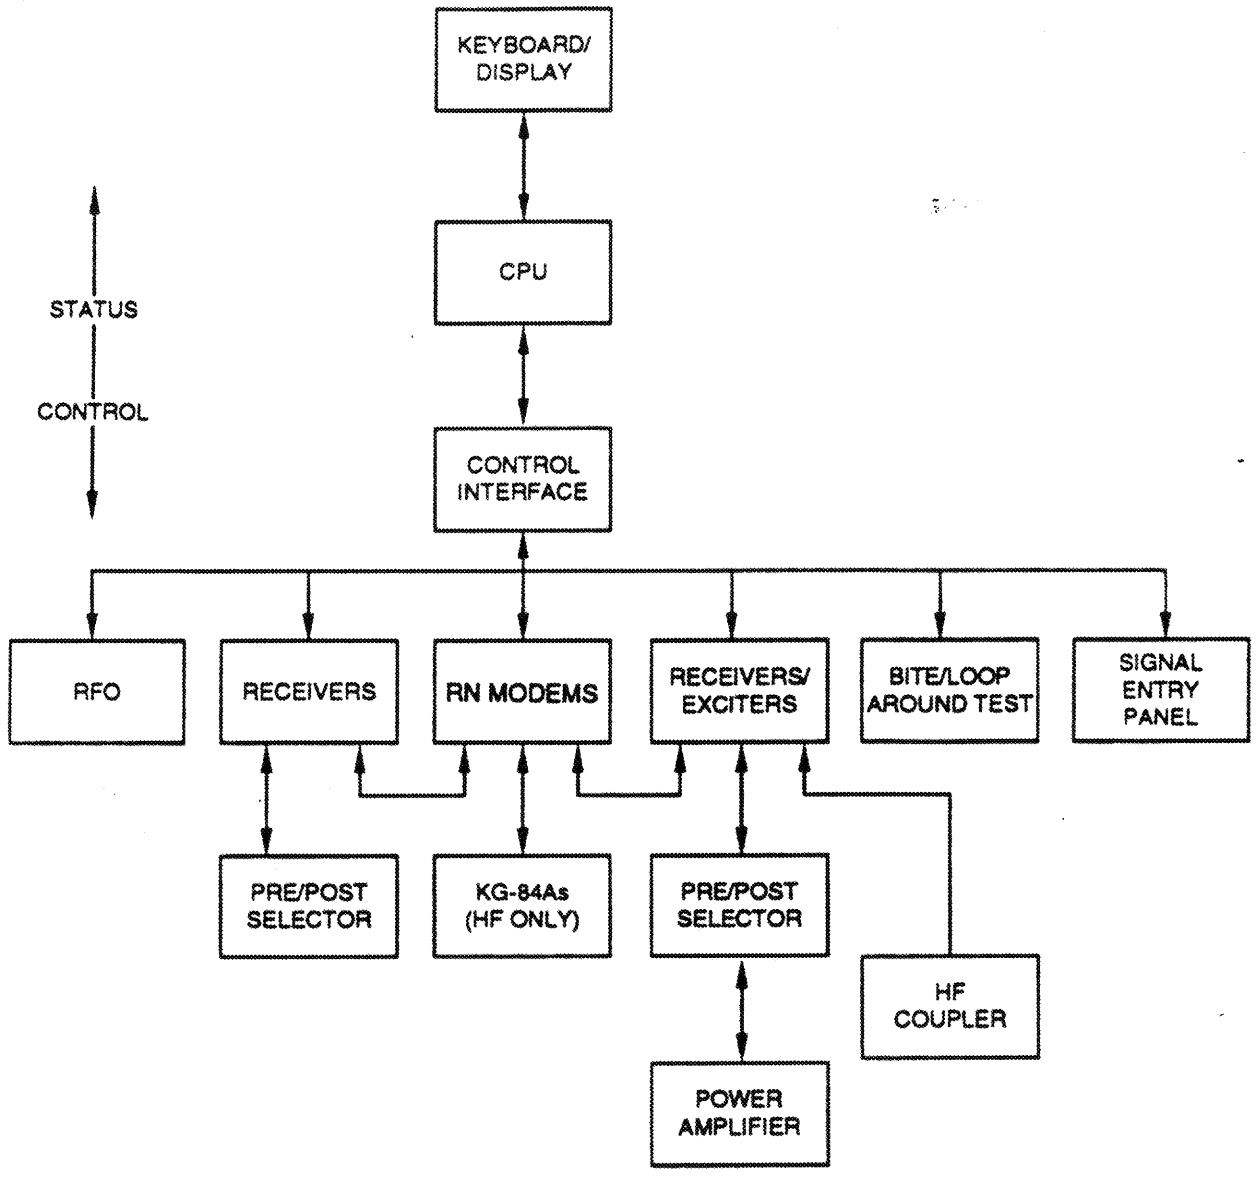

Figure 2-6. Control Signal Flow Diagram
a. Figure 2-6 shows the Control Signal Flow Diagram. All control signals originate at the CPU. The operator has control of terminal operation through the Radio I/O's Keyboard/Display. The CPU sends control commands to the Control Interface Unit. Here the commands are validated and converted to radio, modem, and RFO commands and sent over the control bus.